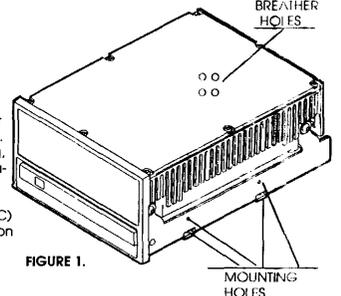

FIGURE 1.
- o Labels must not be put over the breather holes on the top of the drive. (See Figure 1).
The WREN 3 may be mounted with a horizontal orientation (PCB down) or with either of two vertical orientations (on side orientation). Four 6-32 tapped holes are provided in the bottom of the chassis and two on each side. (See Figure 1). The drive may be mounted using four bottom screws or four side screws (two in each side). Four bottom screws are preferred and recommended. Screws must be of sufficient length to engage the threaded holes, but must not penetrate more than 0.12 in. (3.17mm) into the chassis. A sway space of 0.050 in. is required on top and bottom.